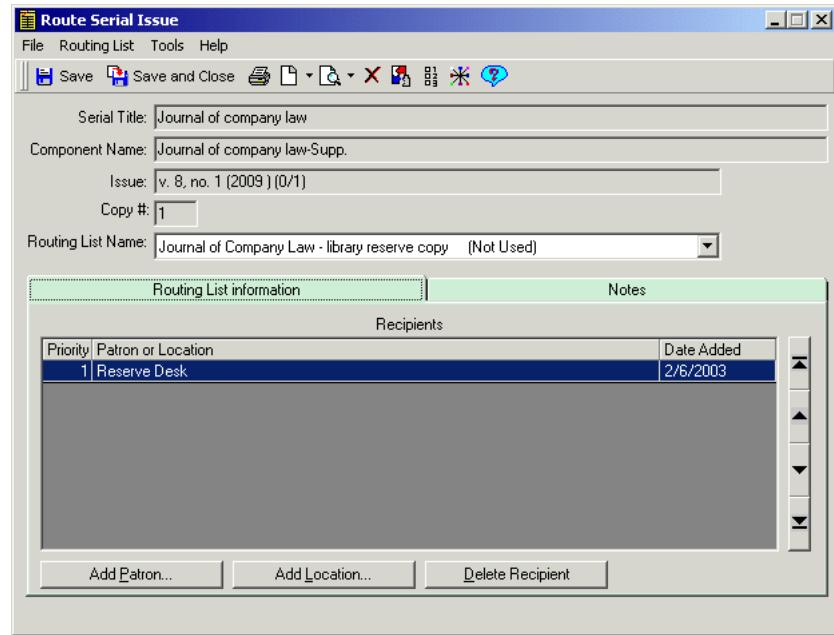

Figure 9-10. Routing list associate with a component
- The routing list associated with the component displays. After closing the **Route Serial Issue** dialog box (Figure 9-10), the newly-created item record displays if a single item record was created. Close the item record after adding needed information. The **Serials Check-In Receive/Mark** work space displays the information of the issue you received.